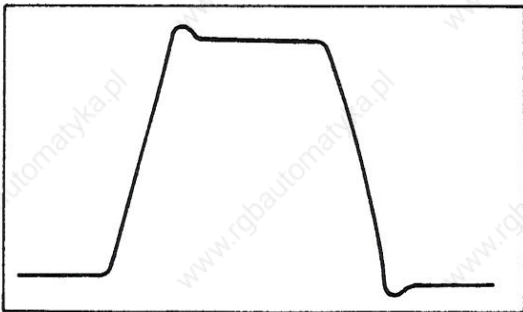

Fig. 3.6/2 Speed curve at properly adjusted P- und I-gain after a jump from $0 \rightarrow n_{max} \rightarrow 0$
- Reduce the value and determine optimum curve (repeat presetting of single reference jump several times, see Figs. 3.6/1 and 3.6/2).